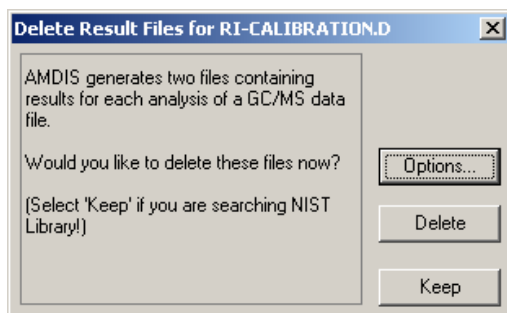

Figure 62 Delete Results Files dialog box
- 4 When you are told to open a file, click **File > Open** and select any other file. Click **Open**. The Delete Result Files dialog appears (Figure 62).